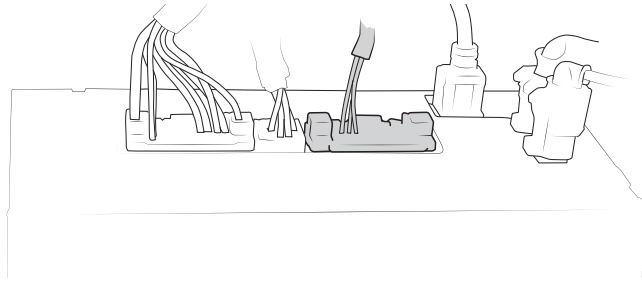

Figure 8
4. Connect the white plug into the back of the radio (fig. 8) then reinstall the radio.